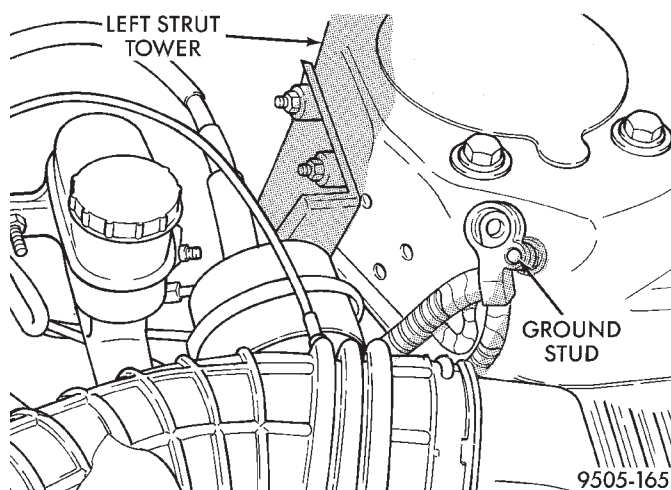

**Fig. 89 Correctly Isolated Remote Ground Cable**
(2) Correctly isolate remote ground cable when servicing vehicle by installing the ground cable insulator on the strut tower ground stud as shown (Fig. 89). **This will prevent accidental grounding of the remote ground cable.**